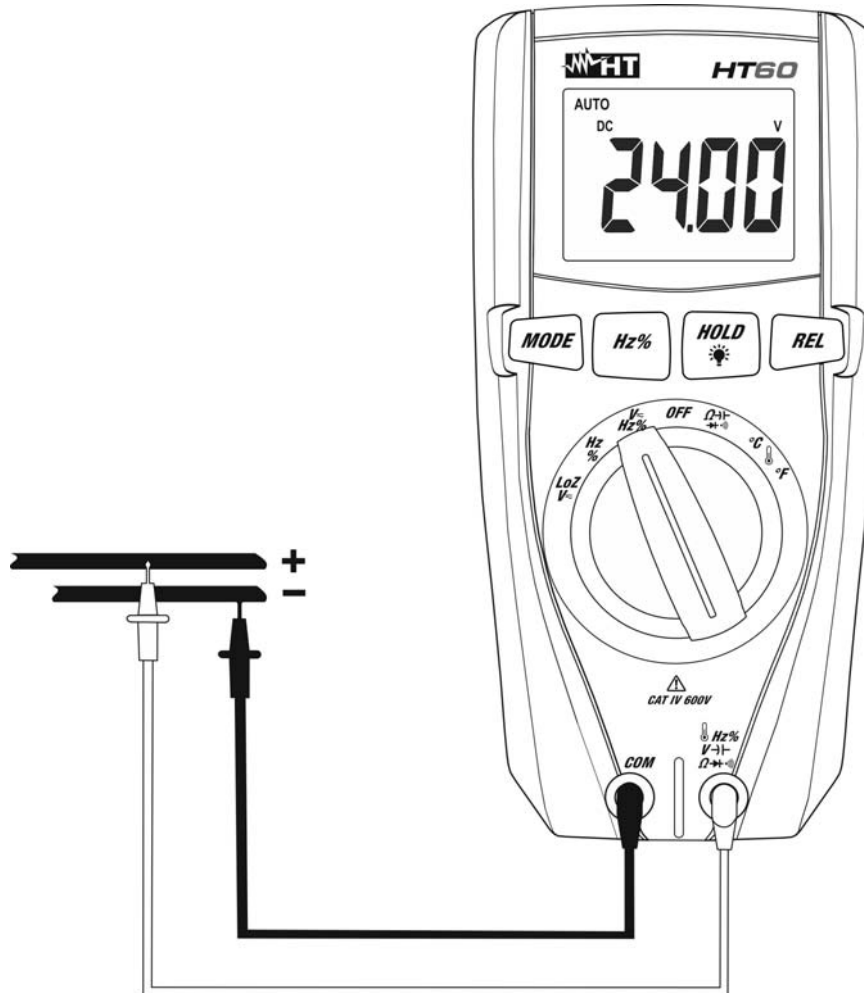
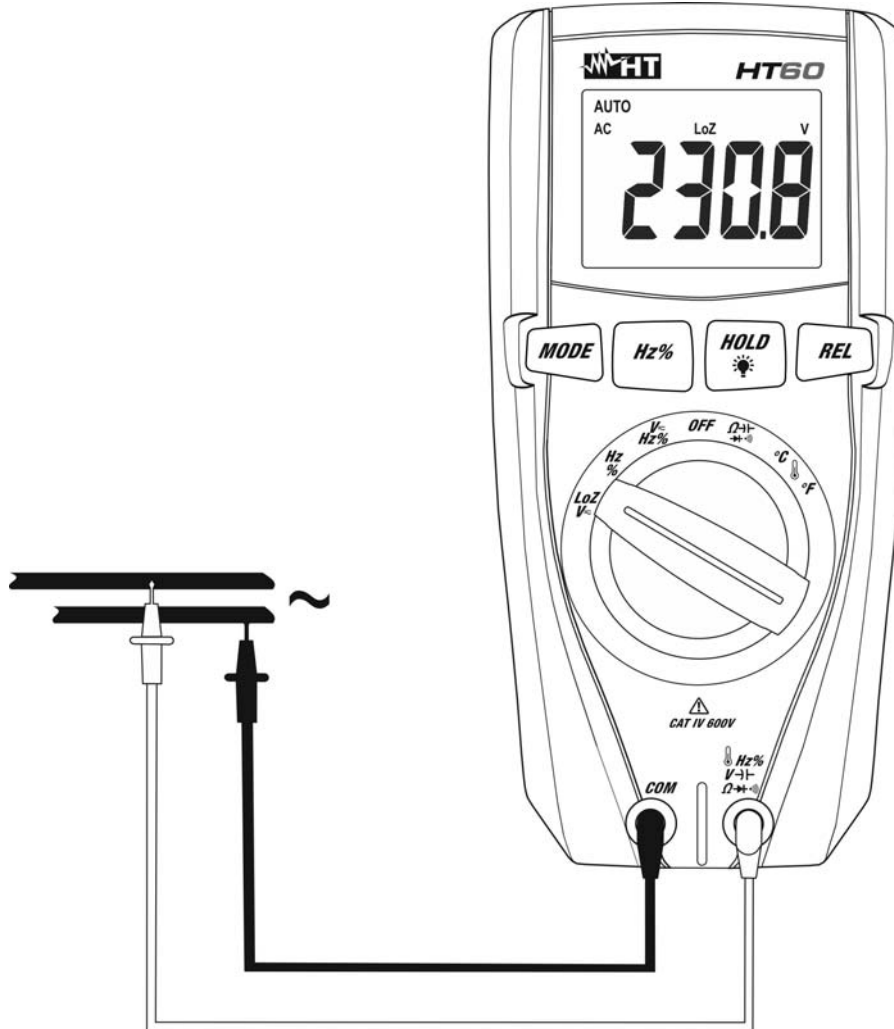

Fig. 2: Use of the instrument for DC voltage measurement
Fig. 4: Use of the instrument for AC/DC voltage measurement with low impedance (LoZ)
4. Position the red lead and the black lead respectively in the spots with positive and negative potential of the circuit to be measured (see Fig. 2). The display shows the value of voltage.
6. When symbol "-" appears on the instrument's display, it means that voltage has the opposite direction with respect to the connection in Fig. 2.
4. Position the red lead and the black lead respectively in the desired spots of the circuit to be measured (see Fig. 4) or in the spots with positive and negative potential of the circuit to be measured (see Fig. 2). The display shows the value of voltage.
6. When symbol “-” appears on the instrument’s display, it means that voltage has the opposite direction with respect to the connection in Fig. 2.